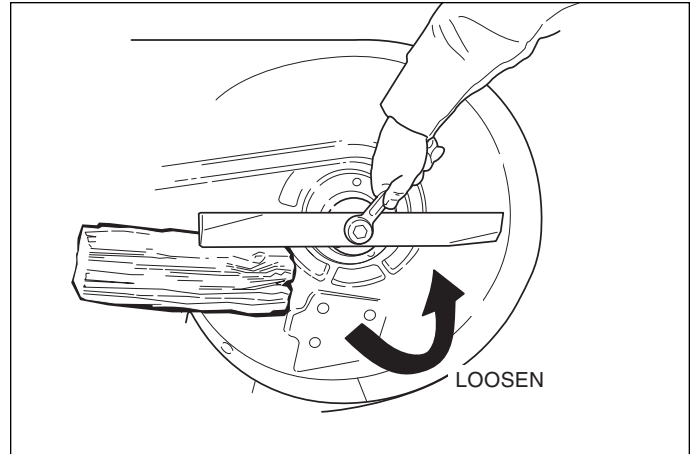

Figure 26. Blade Removal
2. See Figure 26. To remove blade for sharpening, use a block of wood to prevent blade rotation while loosening the hardware.